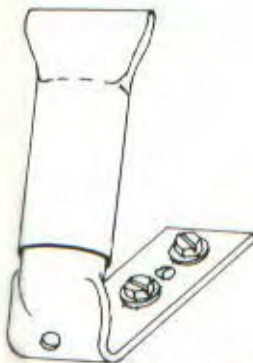

FIGURE 5
E. Place a vinyl bracket jacket (found in the vinyl cover carton) over each bracket as shown in Figure 5. It needs to cover the connection with the universal rafter to prevent scratching of the vinyl Sun Dome cover.